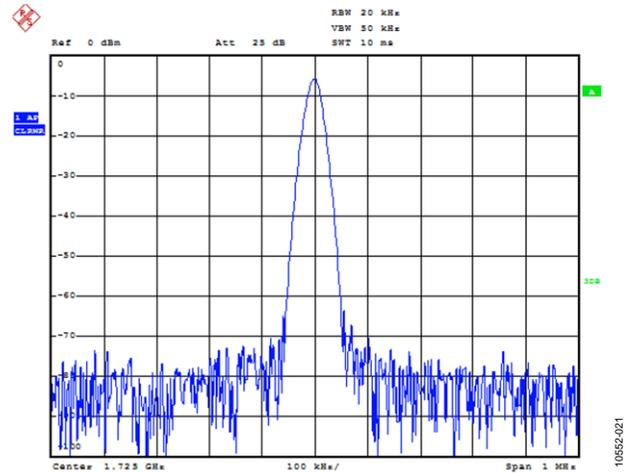

Figure 5. Spectrum Analyzer Display
10. In the software window, set the RF output center frequency (Figure 5 shows a screenshot of a spectrum analyzer taken at a frequency of 1750 MHz, which is in the midrange of
11. Measure the output spectrum. Figure 5 shows a 1750 MHz output.